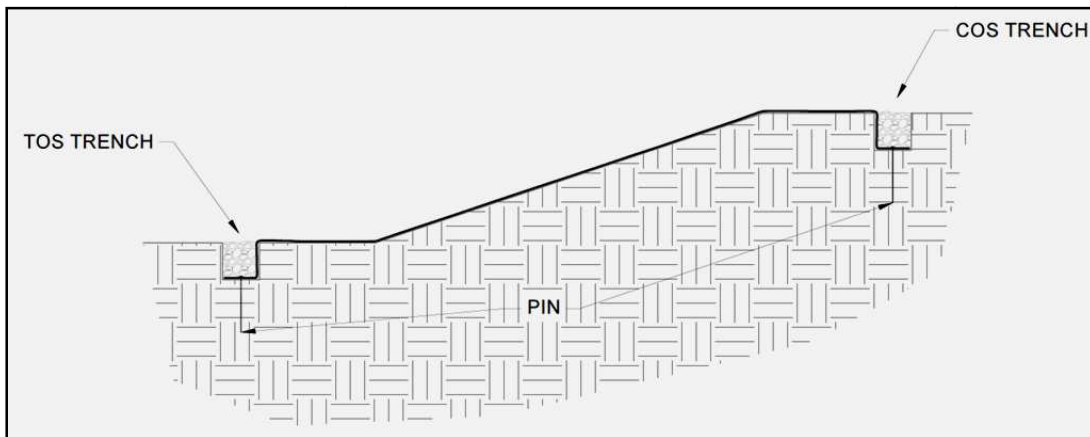

Figure 12: Crest of Slope (COS) Trench and Toe of Slope (TOS) Trench Complete
1. Begin the Landlok 300 Laydown process by starting with the downstream / downwind end of the site. To ensure proper pinning of the overlapped areas the proceeding roll width must be laid out before the current roll width can be pinned with exception to the final roll width. For straight sections of a slope, Landlok 300 panel lengths should be long enough to construct COS and TOS trenches while also covering the surface of the slope being armored (Figure 12). Panel edges should rest approximately perpendicular to the slope center line. For best results, panels of Landlok 300 should be continuous and free from seams or roll end overlaps that are parallel to the centerline of the slope. Panel edge overlapping should follow a pattern of placing each proceeding panel's edge overtop the previous panel edge, shingling the panels in the direction of the water flow or prevailing wind.
7. Secure Landlok 300 with pins in the TOS trench. Suggested placement of pins for the TOS trench is along the bottom of the trench with pins on 12 in (300 mm) centers (Figure 12).
8. Backfill and compact the TOS trench. (Figure 12)